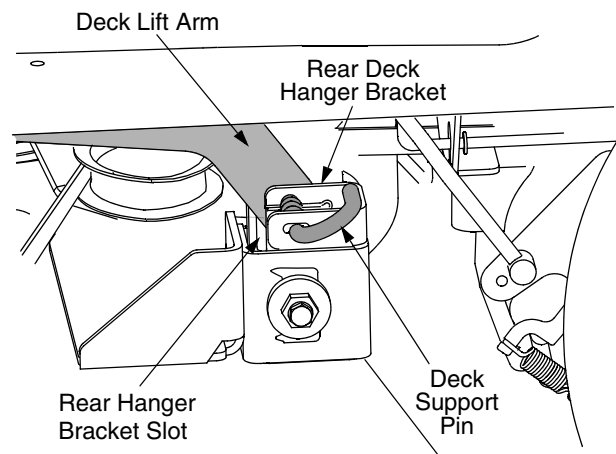

Figure 28
- Locate the LH and RH deck support pins on each side of the deck. Pull the deck support pins outward and lock in the disengaged position to release the deck from the tractor's LH and RH deck lift arms. Refer to Figure 28.
- Maneuver the deck so that the slots in the two rear deck hanger brackets approximately align with the deck lift arms of the tractor. Refer to Figure 28.
- Pull the deck support pins outward and maneuver the deck as necessary to align the holes in the deck lift arm with the pins. Refer to Figure 28.